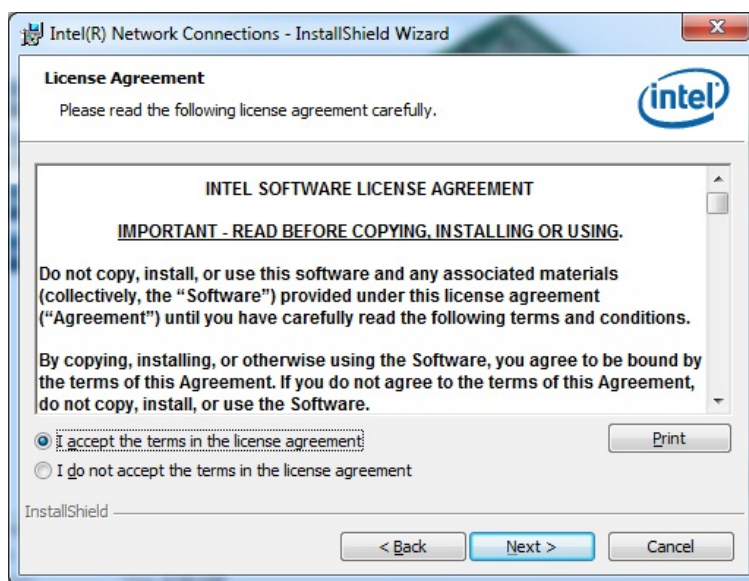

Figure 6-13: LAN Driver License Agreement
Step 9: The **License Agreement** in Figure 6-13 appears.